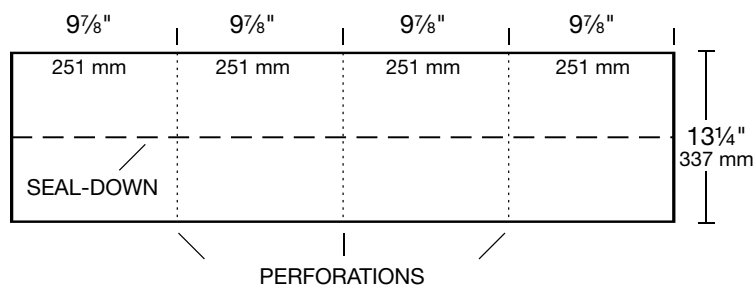
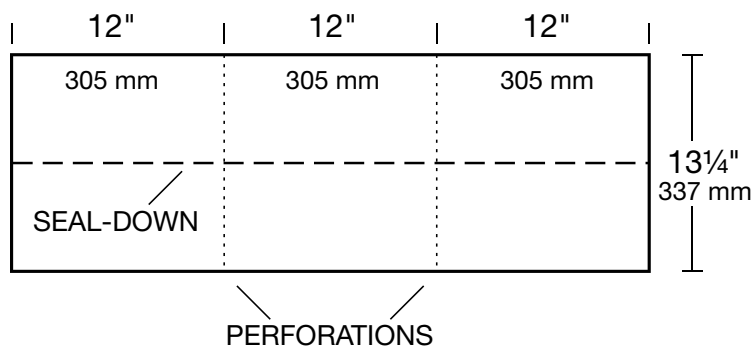

Figure 2 - 10" RidgeFlex™ Hip and Ridge Shingle
Figure 3 - 12" RidgeFlex™ Hip and Ridge Shingle
Prepare for application by separating each hip and ridge shingle at the perforations: The 10" RidgeFlex™ shingle produces four (4) individual hip and ridge strips (See Figure 2), and the 12" RidgeFlex™ shingle produces three (3) (See Figure 3). Note the presence of seal-down strips.